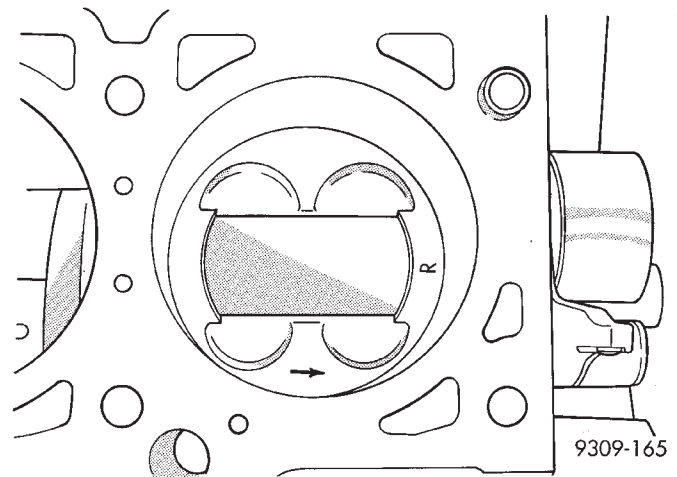

Fig. 15 Piston I.D. Marks
(6) The arrow on top of piston must be pointing toward front of engine (Fig. 15).
(7) Tap the piston down in cylinder bore, using a hammer handle. At the same time, guide connecting rod into position on connecting rod journal.
(8) Install rod caps. Install nuts on cleaned and oiled rod bolts and tighten nuts to 54 N•m (40 ft. lb.) Plus 1/4 turn.